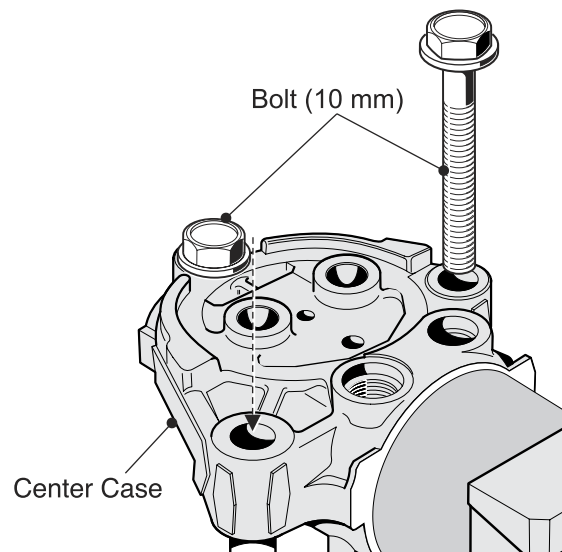

Fig. 34, Center Case Mounting
4. Install (2) 10 mm Bolts and tighten with fingers. (Fig. 34)